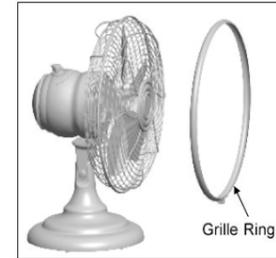

Figure 6
- 6. Slide the grille ring over both front and rear grilles, turning it around so that the screw will secure the grilles at the bottom (Figure 6).